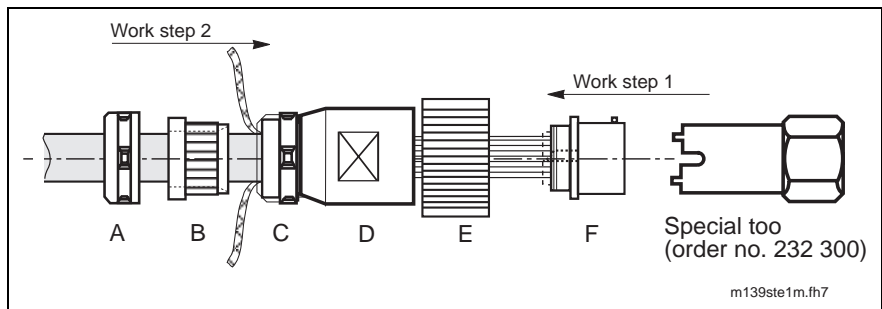

Fig. 4-15: Assembling insulation body and shield connection
16. Using the special tool (mat. No. 232300) and screwdriver (SW22) screw insulation body F onto connector housing D. Tightening torque equals about 3 to 4 Nm (see Fig. 4-15, step 1).
19. Screw parts A and D of the conduit thread on with a tightening torque of about 7 to 8 Nm (see Fig. 4-15, step 2).